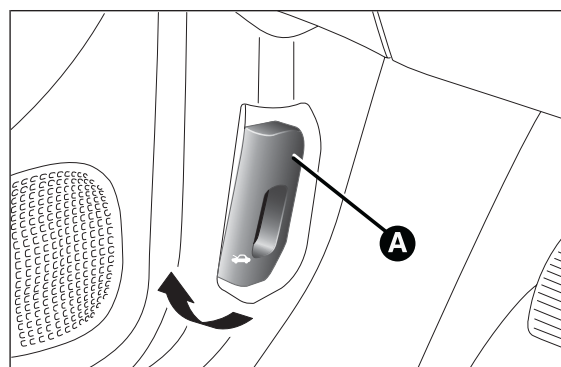

fig. 57
- ☐ pull lever A fig. 57 in the direction indicated by the arrow;